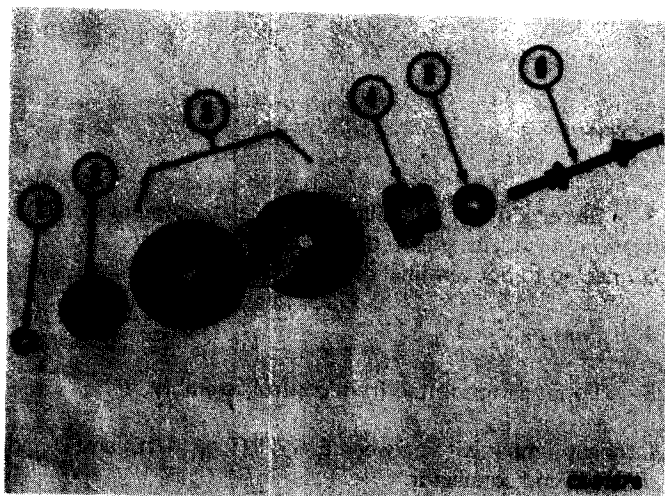

Figure 14-14
Remove nut (1, Fig. 14-14) while holding spindle (6). Slide diaphragm retainer (2), diaphragm (3), seal retainer (4) and seal (5) from spindle.
Slide seal (5, Fig. 14-14) and seal retainer (4) on longer end of spindle (6).